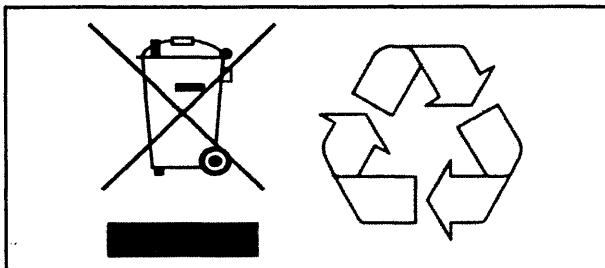

Fig. 3
- For recycling and disposal of the batteries, the rules according to the WEEE directive (Waste of Electronic and Electrical Equipment) as well as local laws and regulations must be followed. If not they may explode, leak and cause personal injury. When returning batteries, insulate their terminals with adhesive tape. Otherwise, the residual electricity in used batteries may cause fire or explosion. Fig. 3 below shows the symbols for disposal and recycling.